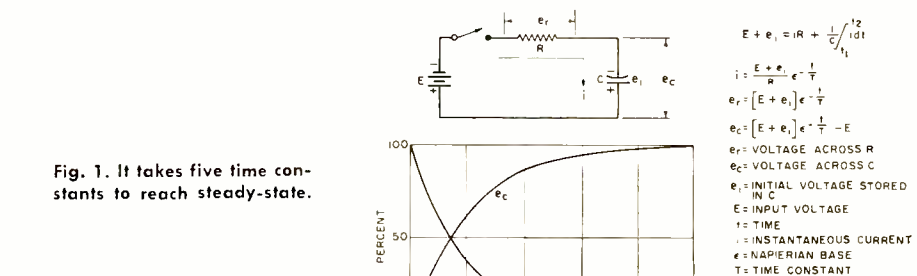

Fig. 1. It takes five time constants to reach steady-state.
In an RC network with a d.c. source, it will take a discrete time for the circuit to reach a steady state. For an RC circuit, the time needed to reach steady state is 5T or five time constants. By using the equations in Fig. 1, the voltage and current may be calculated at any unit of time after the switch is turned on.
If the d.c. source (E) is replaced by a periodic square-wave, the output may be found by using the equations in Fig. 1. The equations are general in nature and may be used for both integrating and differentiating circuits.